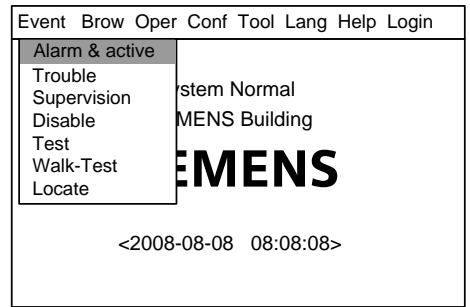

Fig.19-1
1. Press "Menu" to browse the main menu (Fig. 19-1)